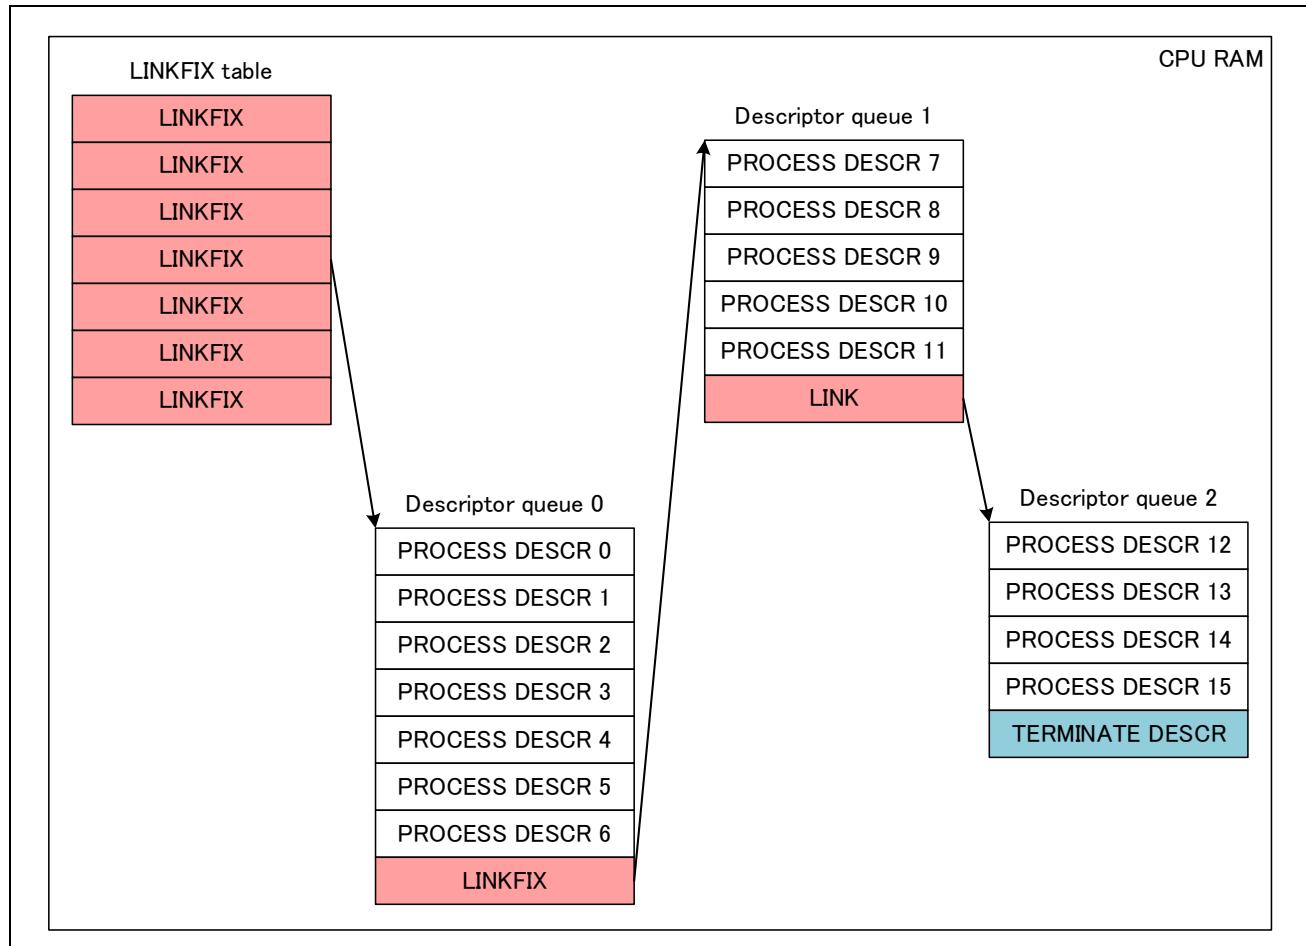
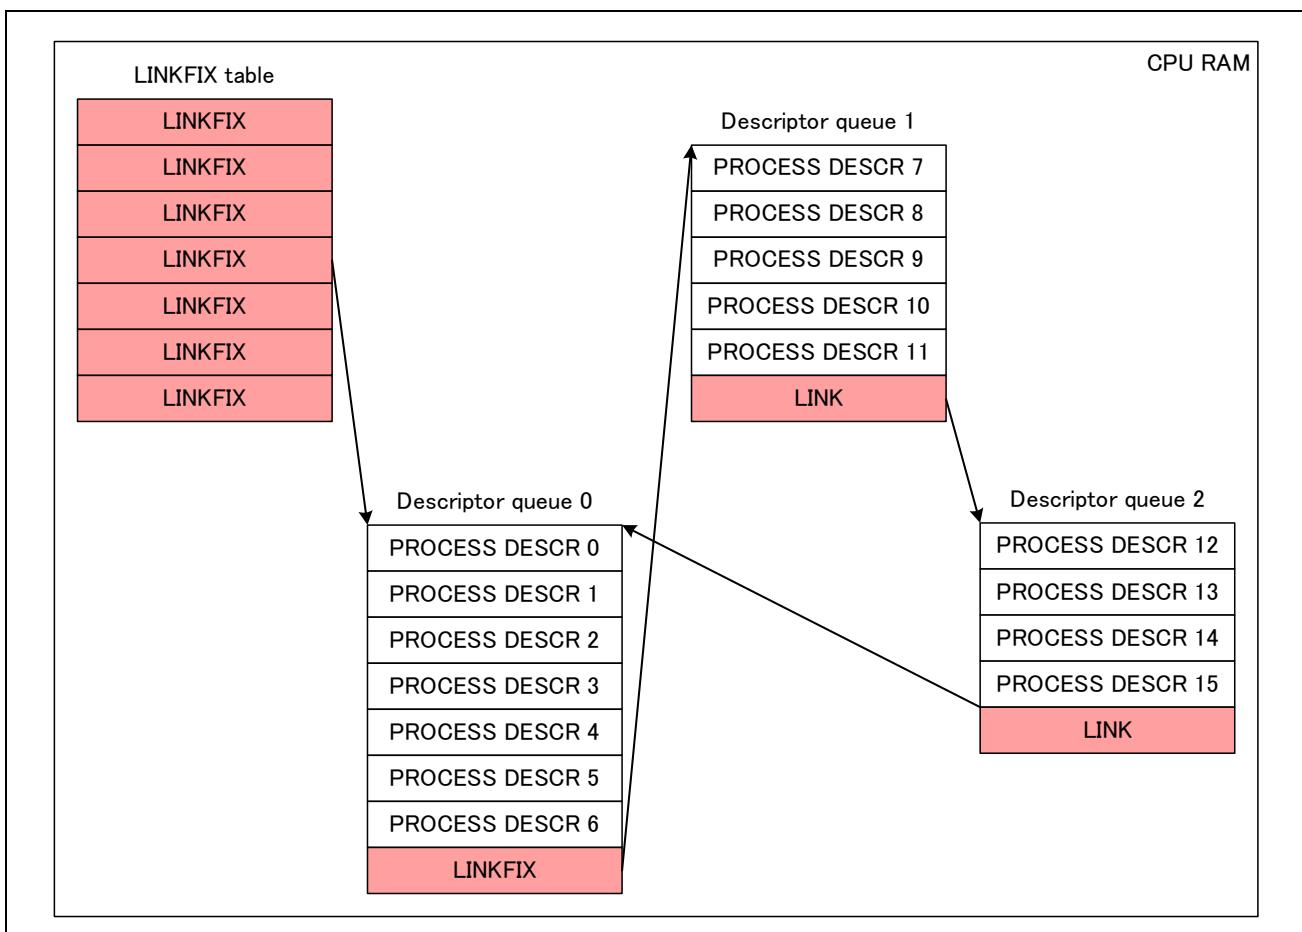

Fig 5.11: Linear descriptor queue example
Fig 5.12: Cyclic descriptor queue example
- A terminate descriptor (TERMINATE DESC R in Fig 5.11) correspond to a FSINGLE or a LEMPTY descriptor for an RX queue, a FEMPTY or a LEMPTY descriptor for a TX queue and a FSINGLE or a LEMPTY descriptor for a TS queue.
- A process descriptor (PROCESS DESC R in Fig 5.11 and Fig 5.12) correspond to a FEMPTY\_IS, FEMPTY\_IC, FEMPTY\_ND, FEMPTY, FEMPTY\_START, FEMPTY\_MID or FEMPTY\_END descriptor for an RX queue (refer to section 5.3.5), to a FSINGLE, FSTART, FMID, FEND or EOS descriptor for a TX queue (refer to section 5.2.2) and to a FEMPTY\_ND for a TS queue (refer to section 5.4.2).